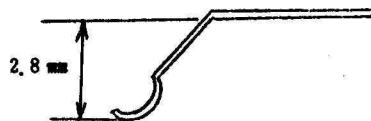

Fig. 129
- a) Do not deform the contract of the Metering Change Plate Sub Ass'y. When the contact pressure is weak, a continuity malfunction may occur. If so, modify it by bending as in Fig. 129.